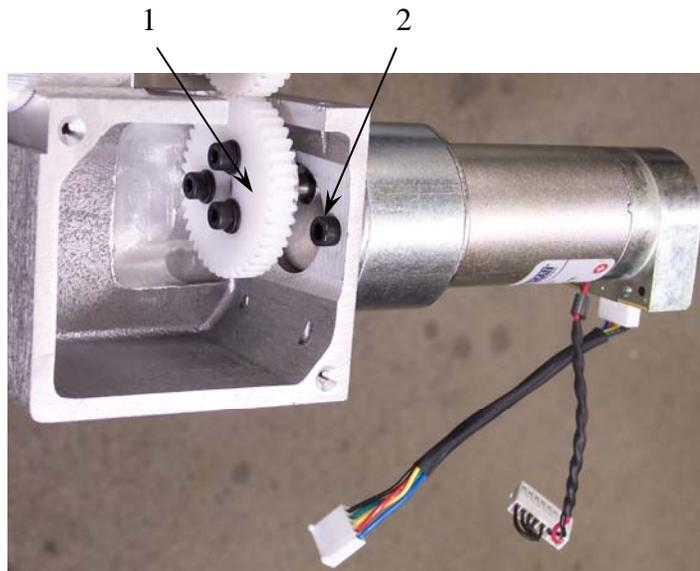

Fig. 8
13.10 Install the new motor, motor orientation must be the same as the removed motor see figure 8.